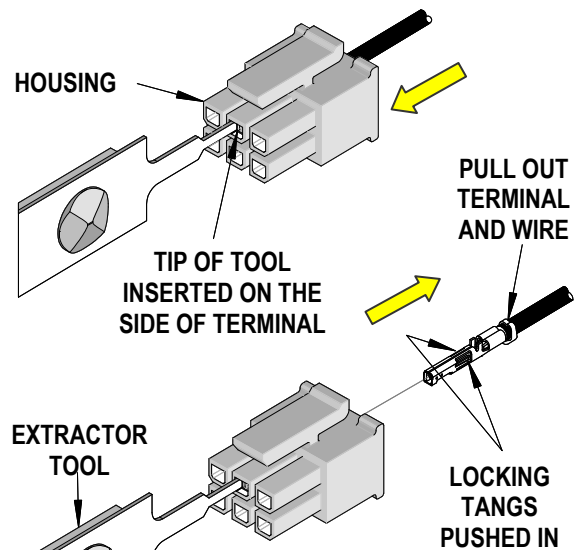

Figure 2
3. Pull on the wire and remove the terminal from the housing. See Figure 2.